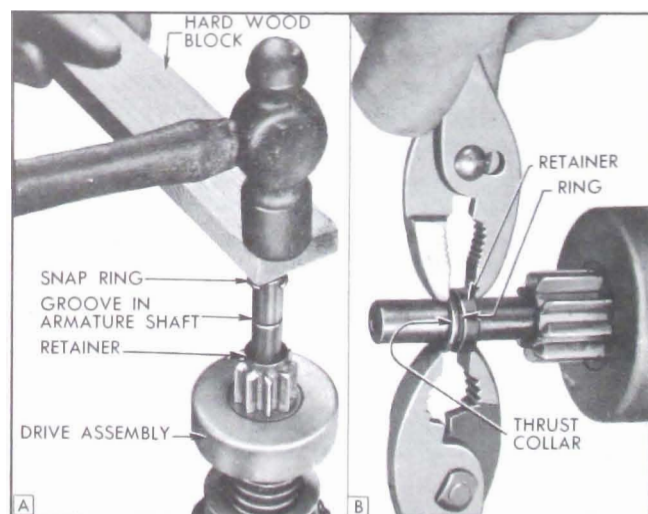

Figure 10-31—Pinion Stop Retainer and Snap Ring Installation
5. Place a new snap ring on drive end of shaft and hold it in place with a hard wood block. Strike block with hammer to force snap ring over end of shaft, then slide the ring down into groove in shaft. See Figure 10-31, view A.
6. Place thrust collar on shaft with shoulder next to snap ring, and move the retainer into contact with ring. Using pliers on opposite sides of shaft squeeze retainer and thrust collar together until snap ring is forced into the retainer. See Figure 10-31, view B.